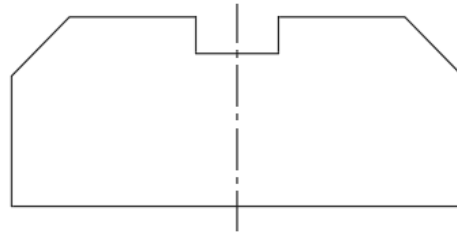

Figure 1-13 Sketch after hiding all constraints
14. Choose the **Hide All** button from the **Parametric** tab of the **Geometric** panel to hide all constraint bars. Figure 1-13 shows the sketch after hiding all constraint bars.